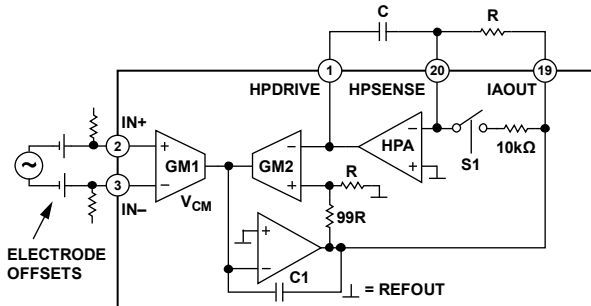

Figure 53. Eliminating Electrode Offsets
Radio frequency (RF) rectification is often a problem in applications where there are large RF signals. The problem appears as a dc offset voltage at the output. The AD8232 has a 15 pF gate capacitance and 10 k Ω resistors at each input. This forms a low-pass filter on each input that reduces rectification at high frequency (see Figure 53) without the addition of external elements.
To achieve offset rejection, connect an RC network between the output of the instrumentation amplifier, HPSENSE, and HPDRIVE, as shown in Figure 53.
| Figure 53 | 1 | 2 | Good | Large | Low | Low |